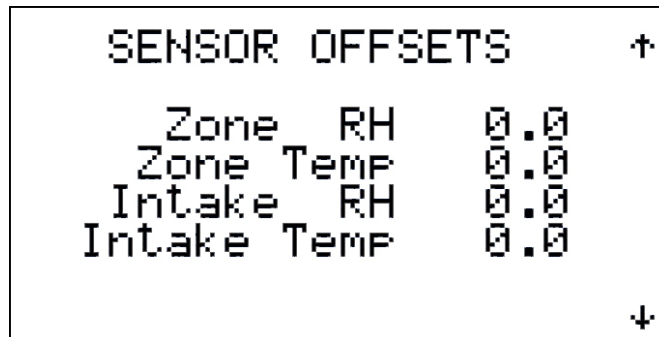

Figure 99
2.3.3.4 Sensor Offsets (Figure 99 - 101)